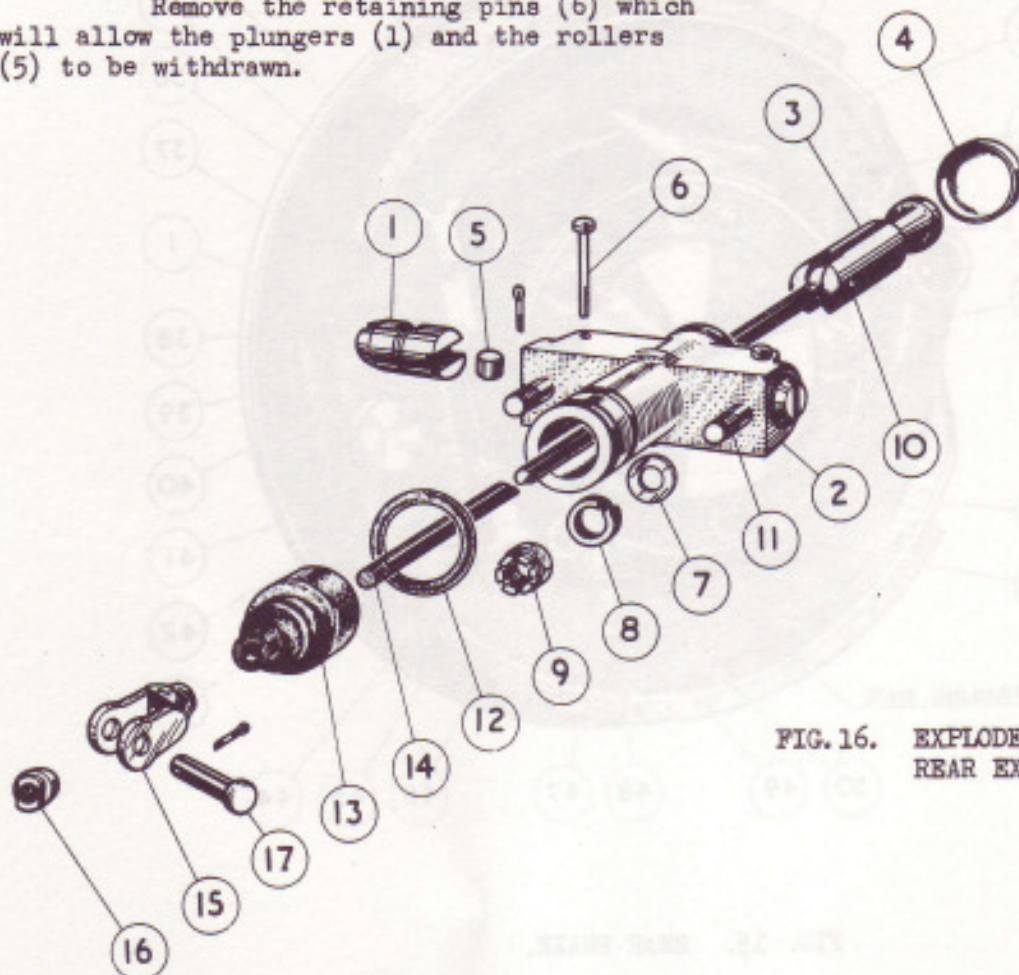

FIG. 16. EXPLODED VIEW OF REAR EXPANDER.
Release split pin, then remove the pin from the jaw (15 Fig.16), thus releasing the brake rod (14) from the equaliser lever. Remove the rubber dust cover (13) and the rubber washer (ring) (12) from the expander housing and roll them back on the brake rod.